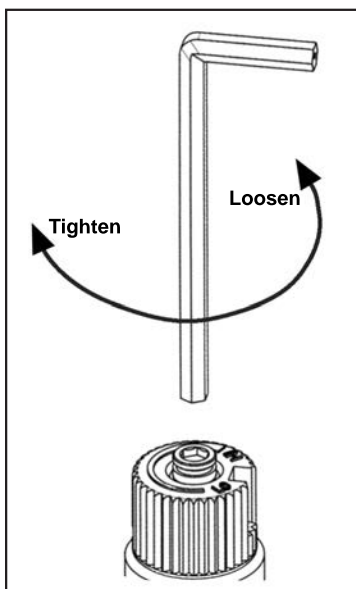

Figure 17: Removing valve screw.
- b) Insert a $\frac{5}{32}$ " or 4 mm Allen wrench into the hexagonal key-way of the screw (see Figure 17), rotate it counter-clockwise until it is free and extract it.
- e) Using the Allen wrench as shown in Figure 17, rotate the screw clockwise until a torque of 9 inch lbs.